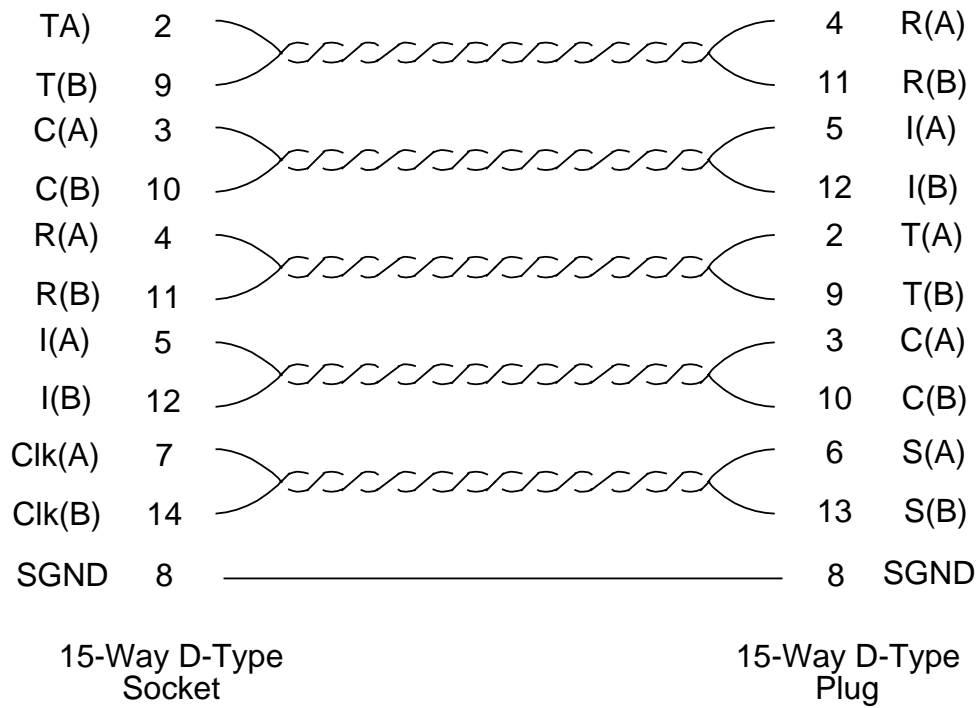

Figure B-10 Composite to X.21 DTE Composite Cable
- (8) RJ8 Application Card to X.21 DTE (8160 provides clocks) use cable X818-400511, Figure B-10.